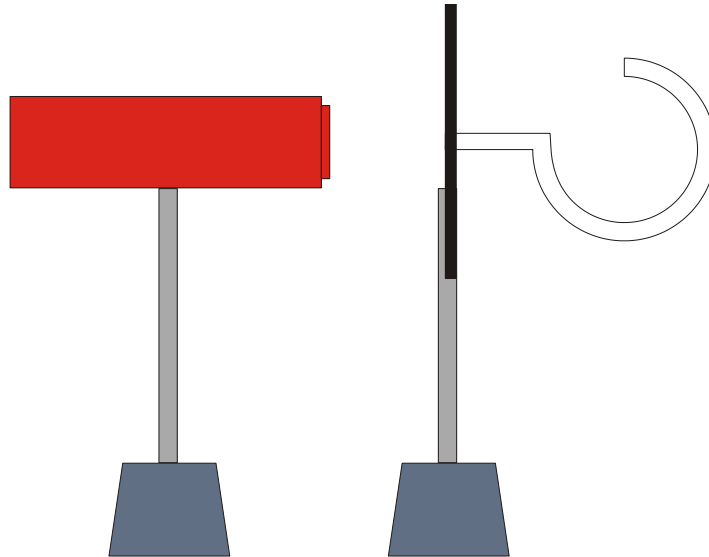

Fig. 1 Experiment set-up with diode laser (1003201)
- Set up the experiment as in fig 1.